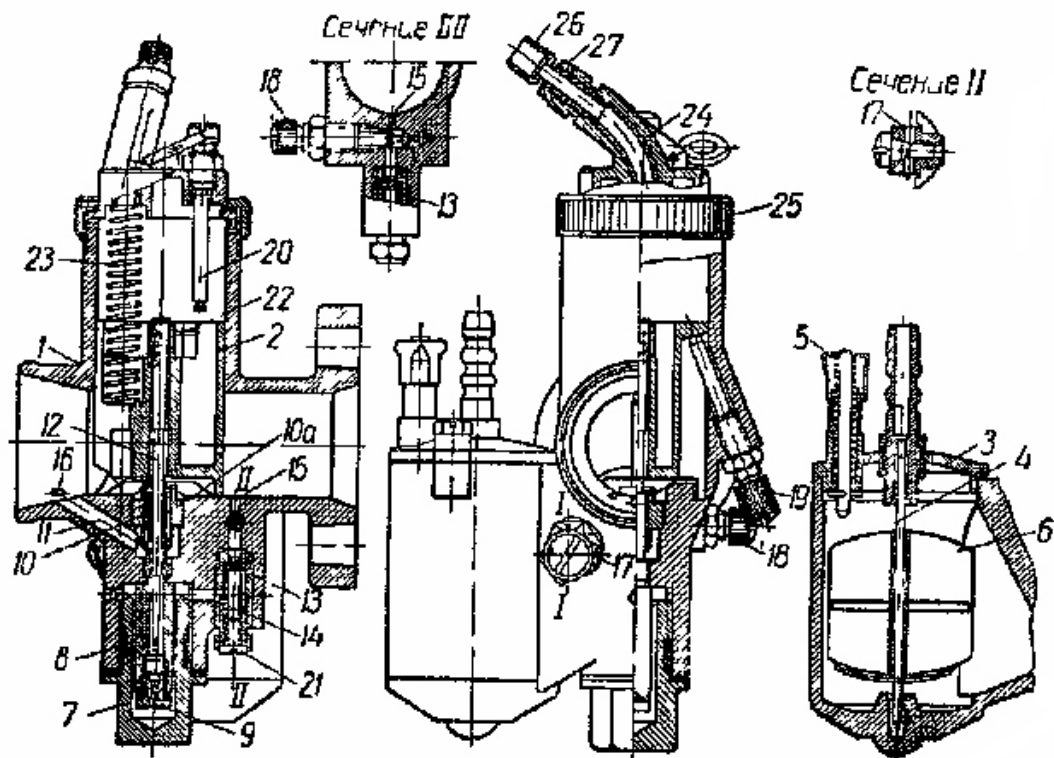

Fig. 8
At 1000 km it is recommended to clean the sieve, wash and clean the fuel filters at the gasoline cock and at the carburetors, wash the carburetors with gasoline and to blow through the nozzles and channels with pressurized air. The signs of contamination of the nozzles or an insufficient fuel supply show up in a sudden and sharp power loss, slamming in the carburetor, and/or in inappropriate RPMs. In this case one must first check whether the pinhole opening is blocked in the gasoline tank cap, which prevents the tank from developing a vacuum. Then one must close the gasoline cock, remove the case and wash the internal filter. After the case is reassembled, one must open the gasoline cock briefly and with a pump blow compressed air through the openings. If the carburetor (fig. 8) is dirty it must be disassembled and
4. The lock nut and the fixing bolt (19, fig. 8) are loosened and adjusted so that the slide (2) is easily lifted and the engine increases RPM
5. Use the screw (18) for the adjustment of the mixture after the engine RPMs decrease.
6. Idle adjustment: adjust the screw (18) to balance the mixture to the point at which the engine works evenly with a high RPM. Then unscrew (19) until the RPMs are reduced to the lowest even point. As soon as the adjustment has been completed one must secure the screws (18) and (19) by their lock nuts.